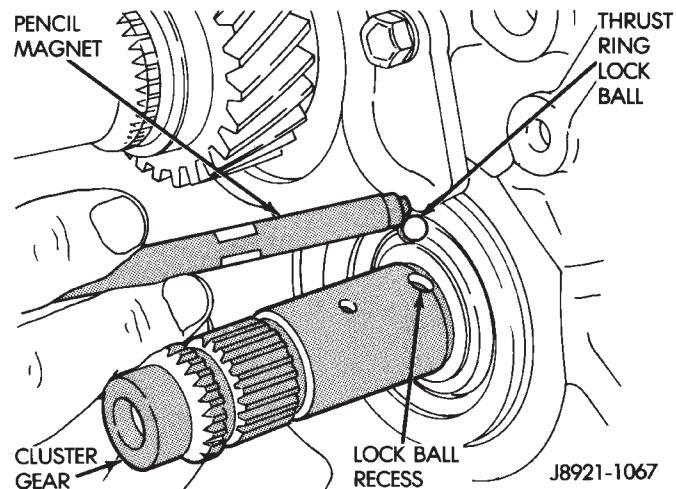

Fig. 93 Install Fifth Gear Thrust Ring Lock Ball
(36) Install the reverse idler gear shaft the remainder of the way through the reverse idler gear assembly.
(37) Position the reverse idler gear shaft lock plate onto the intermediate plate.
(38) Install a new bolt to hold the idler gear shaft lock plate to the intermediate plate.
(39) Install the fifth gear thrust ring lock ball to the countershaft (Fig. 93).